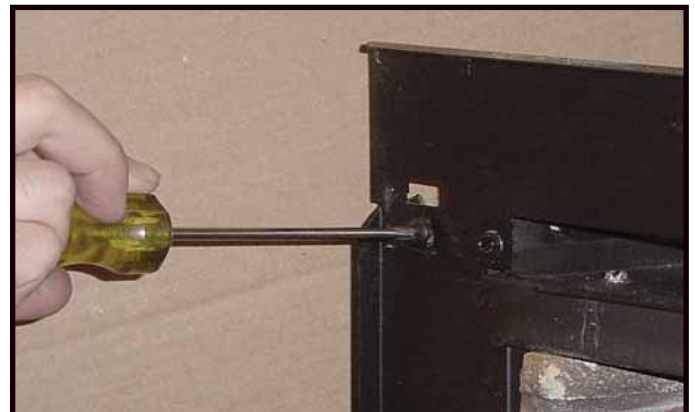

Figure 3. Remove Screws.
2. Remove the glass on the insert. Remove the four (4) screws located at the corners of the insert. See Figure 3. If there are no screws located in the corners, use the 4 screws found in the manual bag.